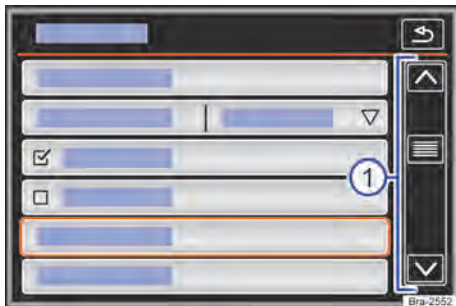

Fig. 113 Schematic representation: list entries, settings menu.
List entries can be accessed by directly touching the screen or with the selector button → Fig. 113 ①.
If the available entries on a list do not fit the display, function buttons or a scrollbar are shown on the right-hand side to scroll through entries → Fig. 113 ①.